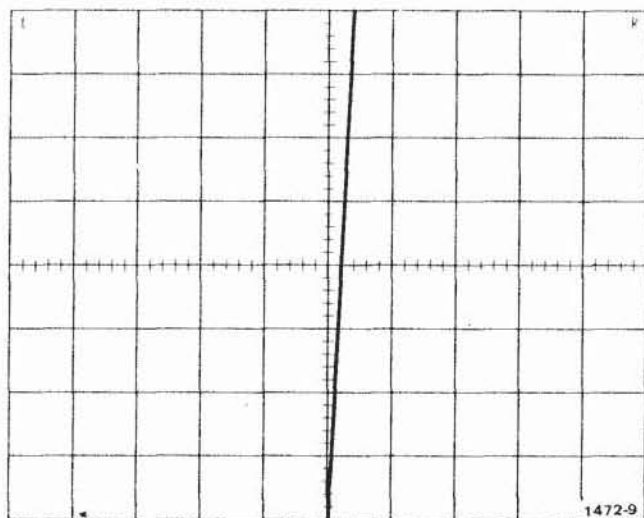

Fig. 5-1. Typical display for Kelvin sensing check.
f. CHECK—The top of the display should be displaced horizontally, in either direction, not more than 15 mV (three major divisions) from the graticule center line. See Fig. 5-1 for an example of a typical display.